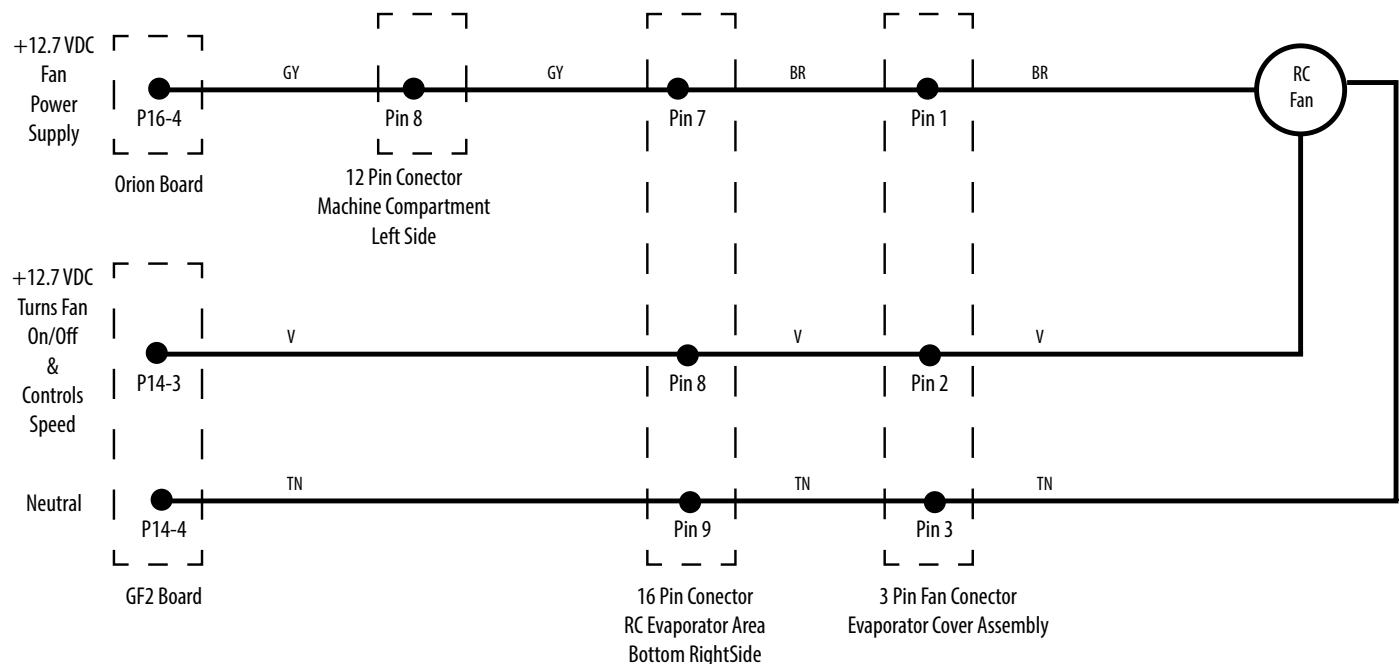

FIGURE 6: RC Fan Electrical Diagram
- Check all wiring connectors tight (See FIGURE 6, Page 4-6).